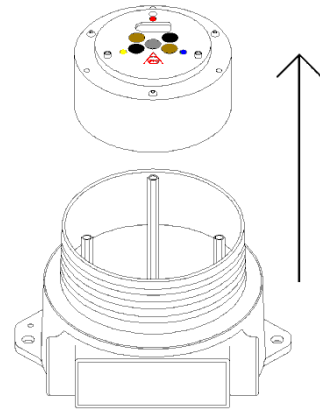

Figure 2-9
- Slide the Detector Module “puck” out of the enclosure base (see Figure 2-9).